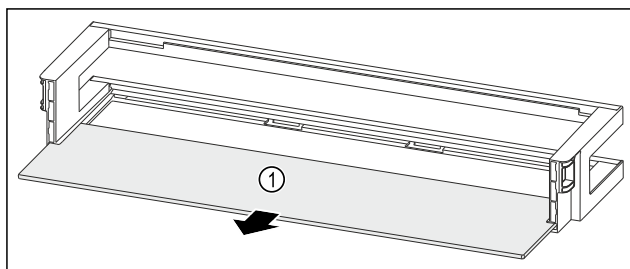

Fig. 250 Door rack with shelf
- ▶ Remove the shelf Fig. 250 (1).